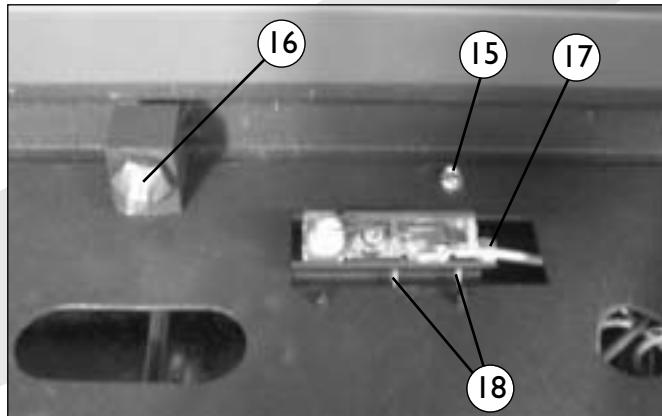

fig. 18
- Remove the burner mounting plate by unscrewing the self-tapping screws (15), (fig.18).
2. Main burner jet (fig.18)
3. Oxypilot (fig.18)
4. Fine adjustment jet (fig.18)